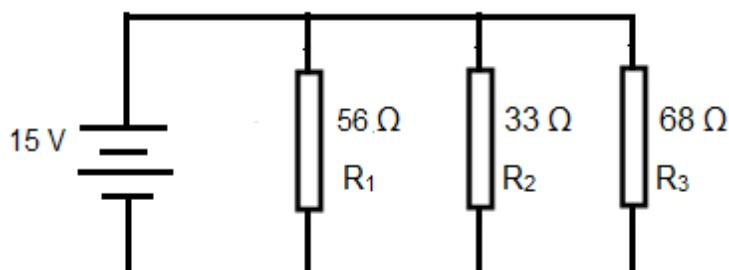

FIGURE 3.3: RESISTORS CONNECTED IN PARALLEL
3.8 Determine without calculation the voltage of each resistor in the circuit in Figure 3.3. (1)